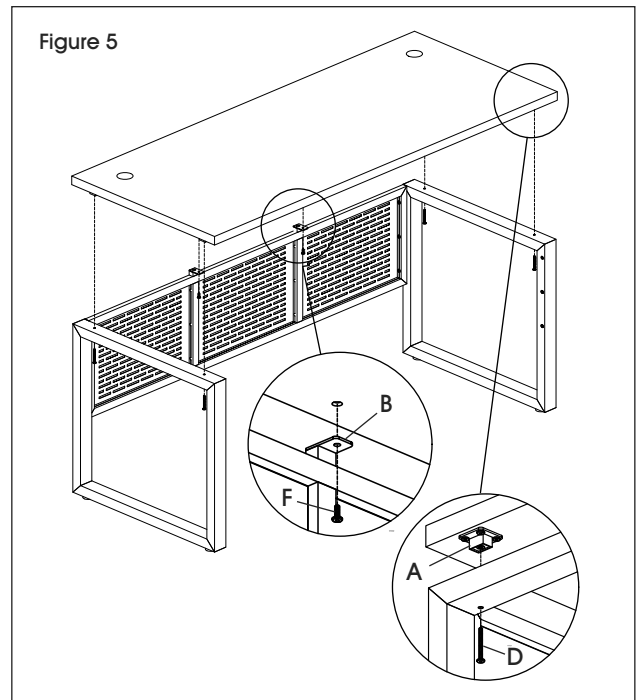

Figure 5
- With a second person, carefully lift the desktop over the assembled frame. Align the holes in the frame with the holes in the leg frame connectors (A). (See Figure 5)
- Insert four M6 x 55 mm bolts (D) through the leg frames into the leg frame connectors and tighten. Insert two M6 x 15 mm bolts (F) through the modesty panel connectors (B) into the rear of the desktop and tighten. (See Figure 5)